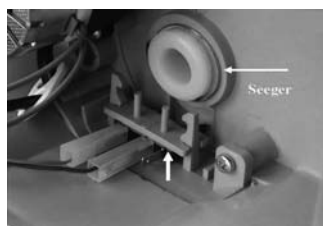

Fig. 15
- Particular in plastics damaged. Open the box and verify the integrity of the parts in plastics of the support of the micro switch (Fig. 15)
- Micro switch damaged. Open the box and verify (Fig. 15): the integrity of the micro switch; its correct positioning; The correct positioning of the clamps; the integrity of the wires of connection; the integrity of the lever of driving of the micro switch.
- The cam is out of position. Open the box (Fig. 15) and verify that the metallic seeger that holds back the cam is entire and well positioned in its lodging. Verify that the cam operates the lever of the micro switch (rotating it by hand).
In fig. 15 are well shown the micro switch, its particular mechanism of fixing and command and the clamps of connection with the controller.